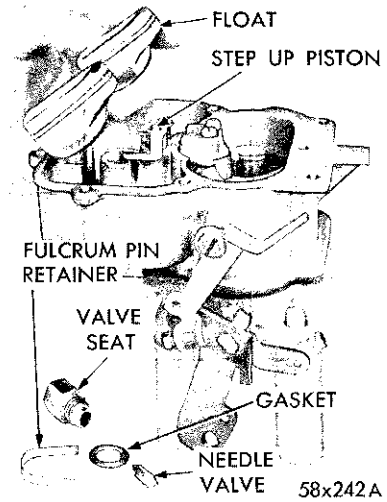

Fig. 6—Removing or Installing Float
(6) Remove the fuel inlet needle valve, seat and gasket from the main body.
(7) Lift out the float fulcrum pin retainer, and lift out the floats and fulcrum pin, as shown in Figure 6.
(8) Remove the step-up piston and retaining screw and slide the step-up piston and rods out of